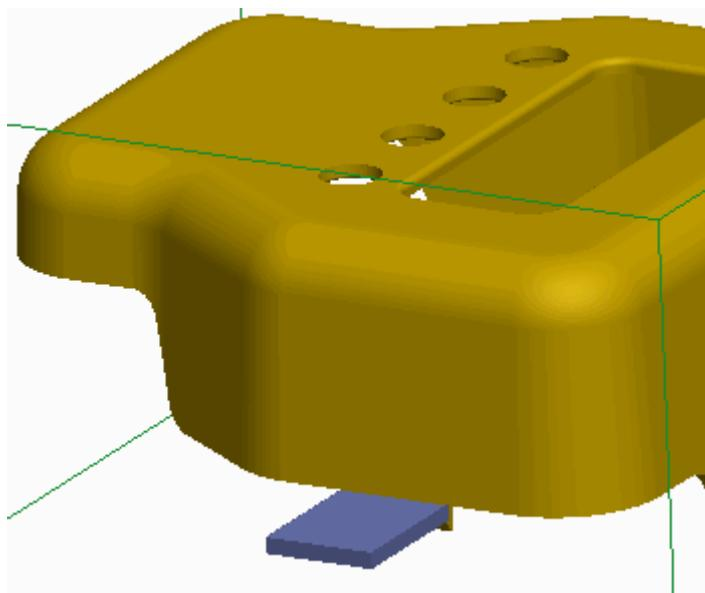

Figure 3 – Slider Volume too Small
- Size – Since the slider mold volume created by calculating undercut boundaries takes on the shape of the undercut, the slider mold volume may be too small for manufacturing, as shown in Figure 3.